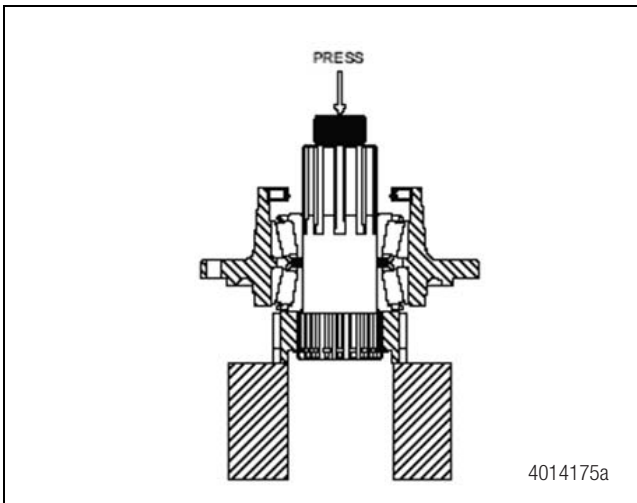

Figure 5.25
3. Place the shaft assembly in a press such that the face of the clutch gear is supported and the press arbor bears against the threaded end of the shaft. Figure 5.25. Be sure that the outer diameter of the snap ring will clear the support. Remove the carrier assembly, the inner bearing cone assembly, the bearing spacer ring, and the clutch gear.